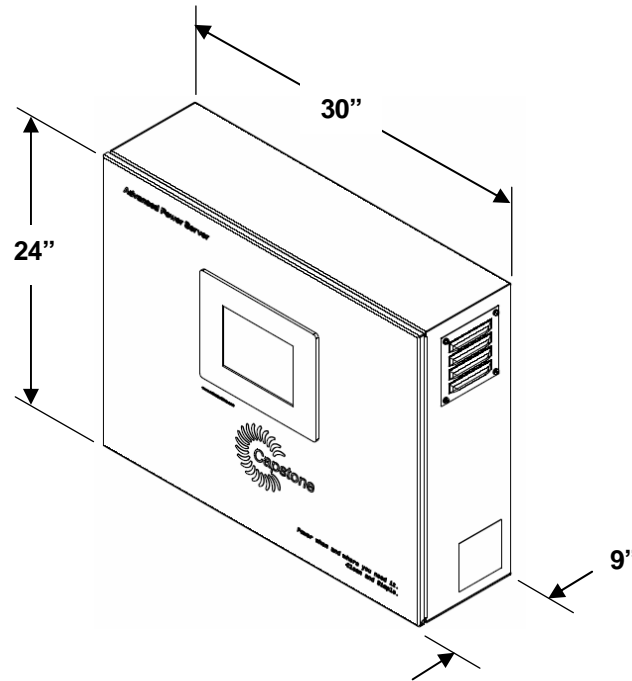

Figure 4. APS Enclosure Dimensions
- The APS-115-CXXX and APS-130-0XXX models come in a NEMA 3 rated electrical enclosure of the dimensions 24" High x 30" Wide x 9" Deep (see Figure 4). Consult Factory for APS-130-CXXX dimensions.